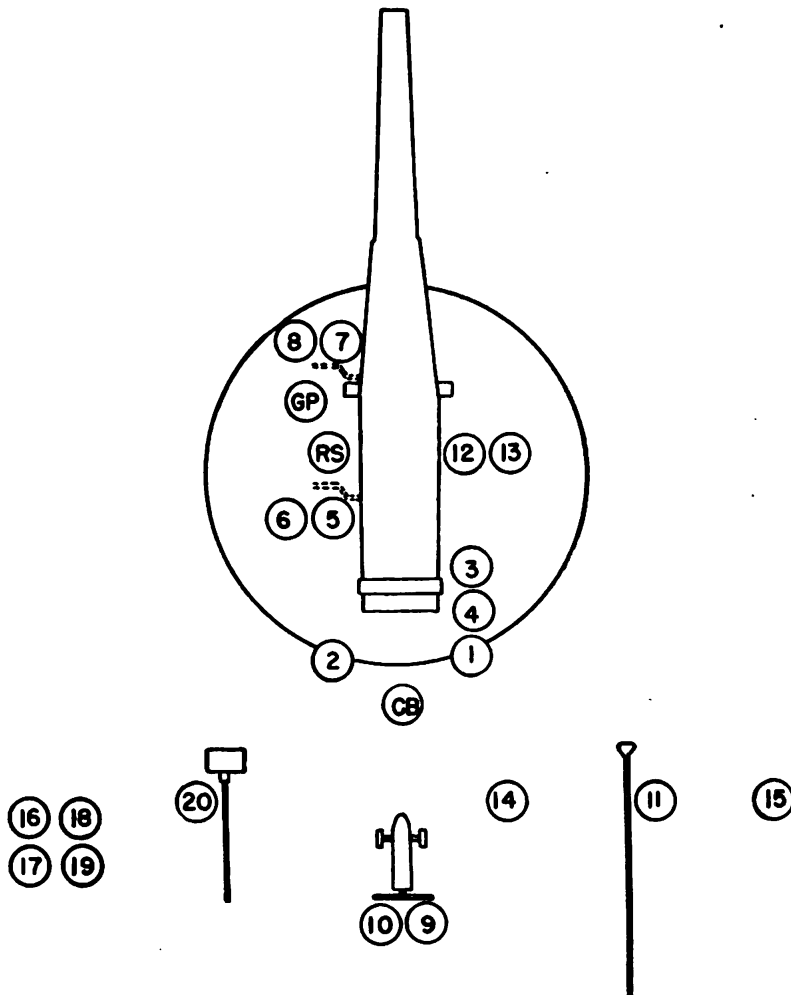

FIGURE 12.—Posts of gun squad for 12-inch gun on barbette carriage.
Q. What are the posts of the gun squad of the 12-inch gun on barbette carriage? A. See figure 12.
(1) Clasp the hinged collar over the end of the spindle with the two ribs of the collar engaging in the corresponding grooves of the spindle, keeping the hinge at the top.